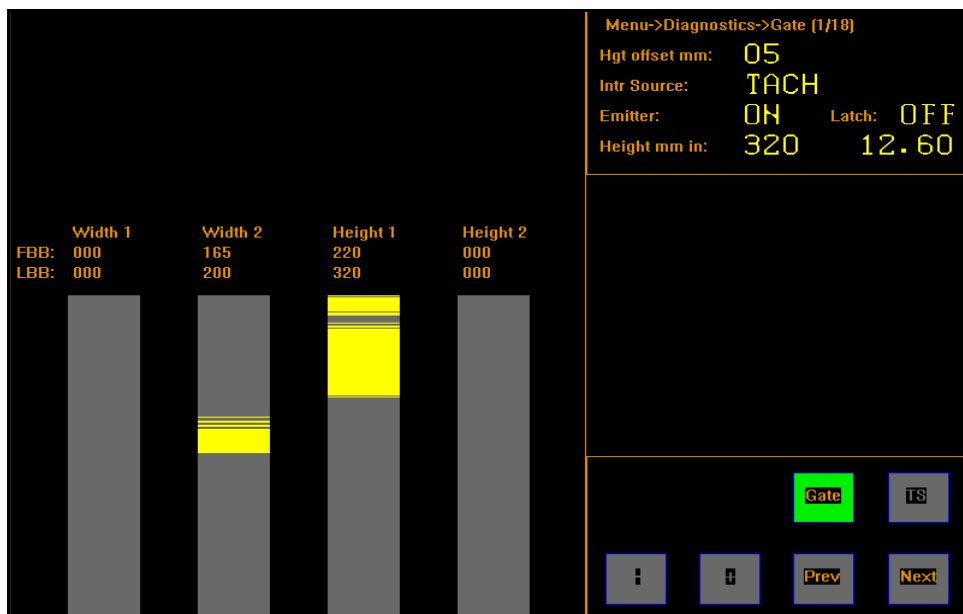

Figure 73
Figure 73 displays yellow lines on the LED beam bars, which means that light beams are being broken. This could mean that there is something on the CubiScan 225's platform or sensors. If the measuring area and sensors are clear (see "Cleaning the Sensors" on page 56) then the LED beams may not be functioning properly. The values of the first and last beams that are broken are listed for the width and height.
- If yellow lines are visible (as shown in Figure 73) even though there is no object in the measuring field or debris on the sensors, contact Quantronix Technical Assistance at +1 (801) 451-7000.